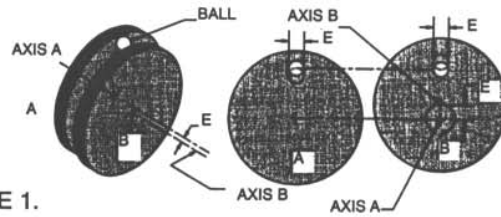

FIGURE 1.
FIGURE 1. Putting a ball between two discs, fixing one disc (A) and moving the other disc (B) through an eccentric path of amplitude (E) the ball will roll on both discs with a circular path of diameter (E). Note that disc B does not rotate on axis B but merely oscillates on an eccentric path relative to (A).